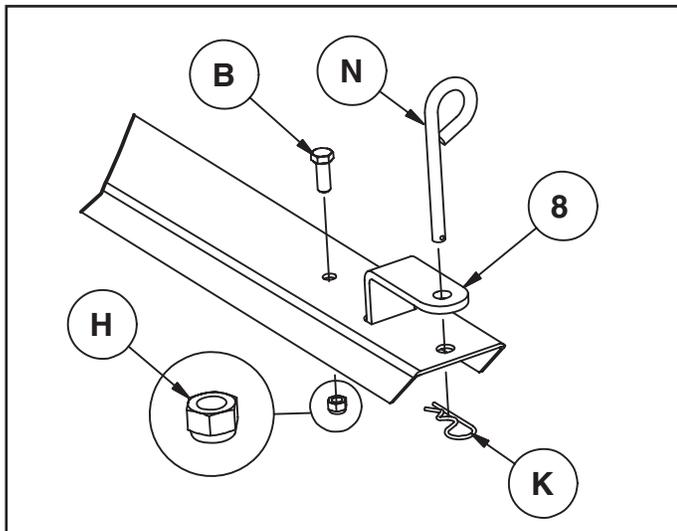

FIGURE 3
STEP 3: (SEE FIGURE 3)
- Assemble the end of the hitch bracket (8) down through the slot at the front of the tongue. Fasten it to the tongue using the hex bolt (B) and hex nut (H). **Tighten.**
- Assemble the hitch pin (N) and hair cotter pin (K) to the tongue and hitch bracket.